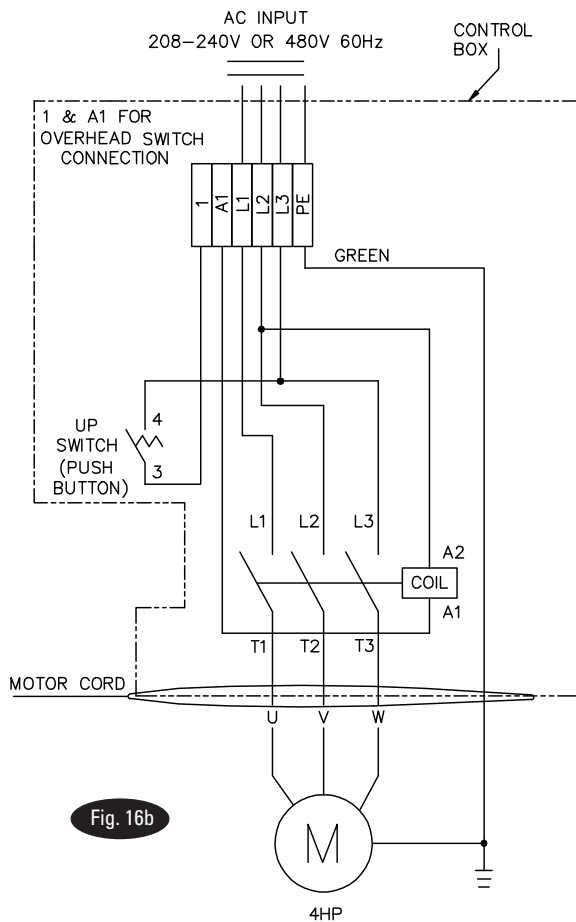

Fig. 16b
IMPORTANT: Use separate circuit for each power unit. Protect each circuit with time delay fuse or circuit breaker. For single phase 208-230V, use 20 amp fuse. For single phase 4HP motor use 30 amp fuse. Three phase 208-240V, use 20 amp fuse. For three phase 400V and above, use 10 amp fuse. For wiring see Fig. 15 and Fig.16b. All wiring must comply with NEC and all local electrical codes.
16. Overhead switch: Check overhead switch assembly to assure that switch bar is depressing switch plunger sufficiently to actuate the switch. The overhead switch is wired normally open, see Fig. 15, Fig. 16, and Fig. 16b. Lift will not operate until weight of switch bar is depressing switch plunger. Verify that Power Unit stops working when switch bar is raised, and restarts when the bar is released.